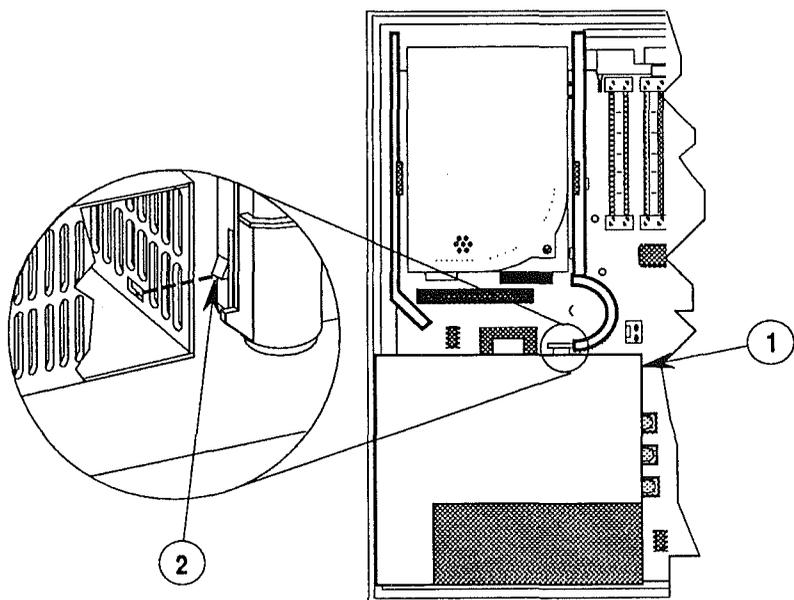

FIGURE 5
3. Reach down and underneath the front right of the power supply (Figure 5, #1) where the disk drive carrier is touching the power supply, and find the tab (Figure 5, #2) that is latched to the bottom of the power supply. (This tab is part of the disk drive carrier unit.)